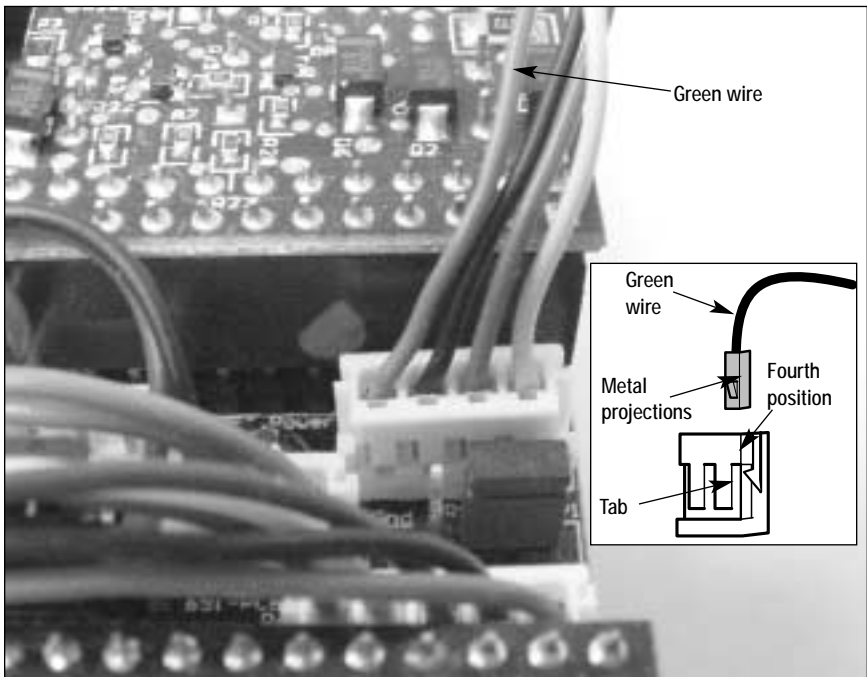

Figure 4. Connecting the green wire
11. As illustrated in Figure 4, insert the connector pin at the end of the green wire into the empty fourth position on the connector.